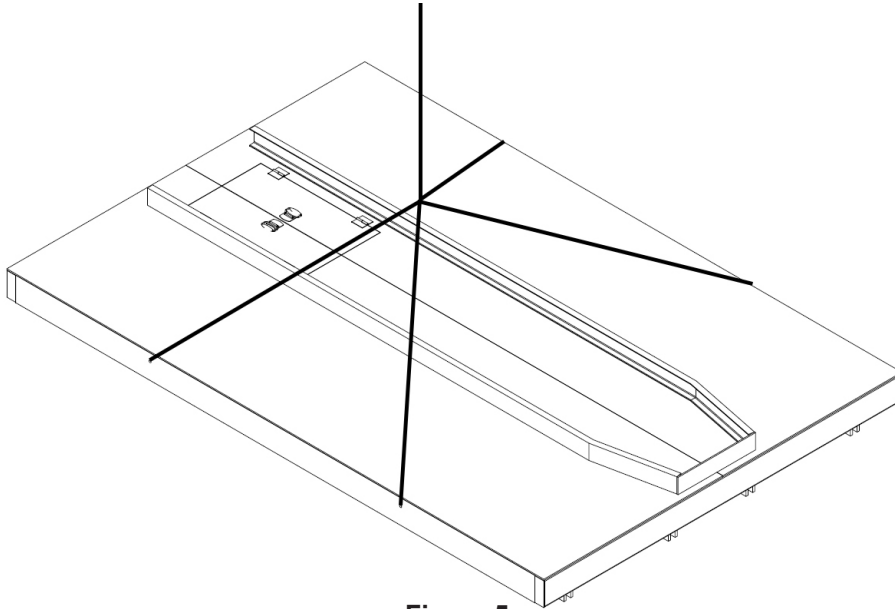

Figure 5
4. Have four (4) blocks at least 8" (203.2 mm) tall and able to hold at least 2000 lbs (1000 kg) of weight to set the truck leveler on once it is unloaded from the transport vehicle.
8. Attach lifting chains to the four lifting holes of the truck leveler (see Figure 5) and to a lifting device (i.e., hoist or fork truck) having the appropriate lifting capacity and reach.